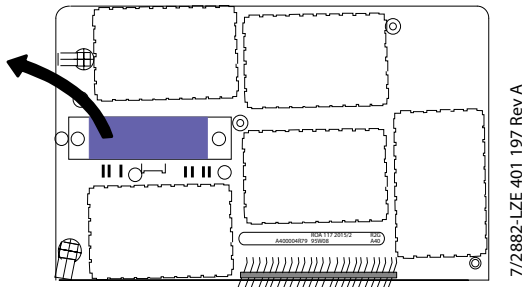

Figure 14 Removing the Beryllium Oxide component from the board.
9. Remove the loosened Beryllium Oxide component by lifting it off as per Figure 14.